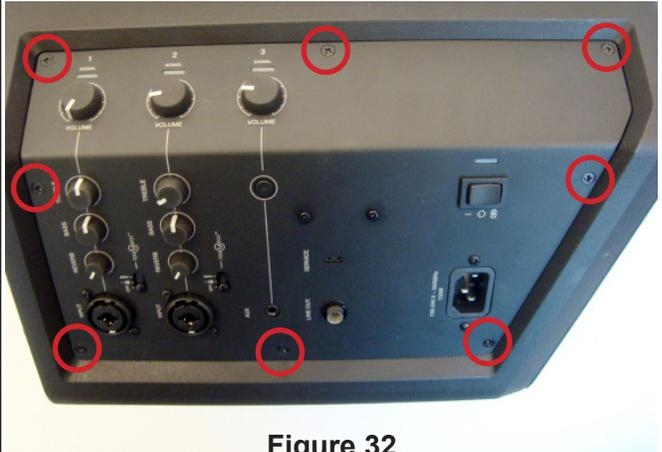

Figure 32
11.2 Remove the screws circled, as shown in figure 32. Remove the I/O Panel and access the Pole Switch PCB.